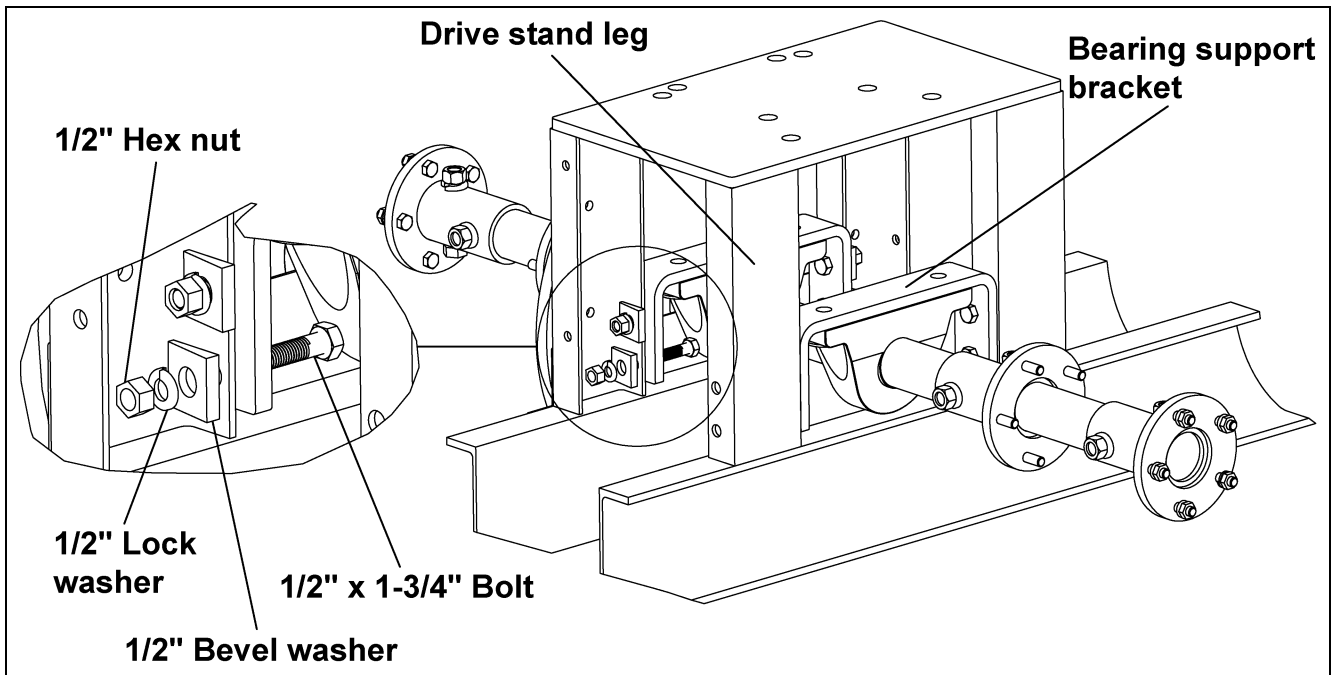

Figure 5J
E. Bolt the bearing support brackets to the legs of the tractor drive stand using 1/2" x 1-3/4" bolts, 1/2" lock washers, 1/2" bevel washers and 1/2" hex nuts. (See Figure 5J.)